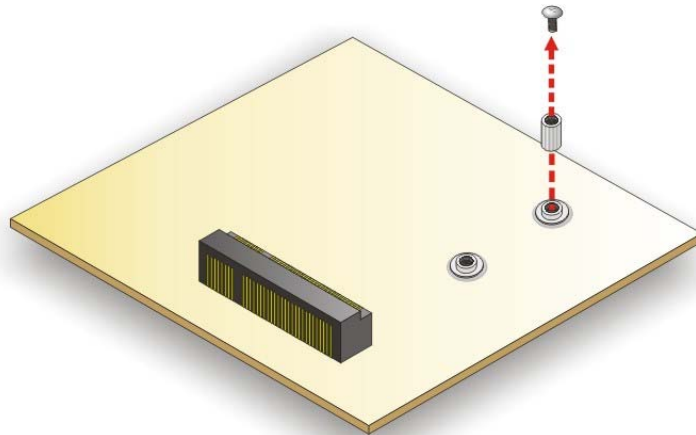

Figure 3-12: Removing the Retention Screw and Standoff
Step 4: Remove the retention screw and the standoff secured on the motherboard as shown in **Figure 3-12**.